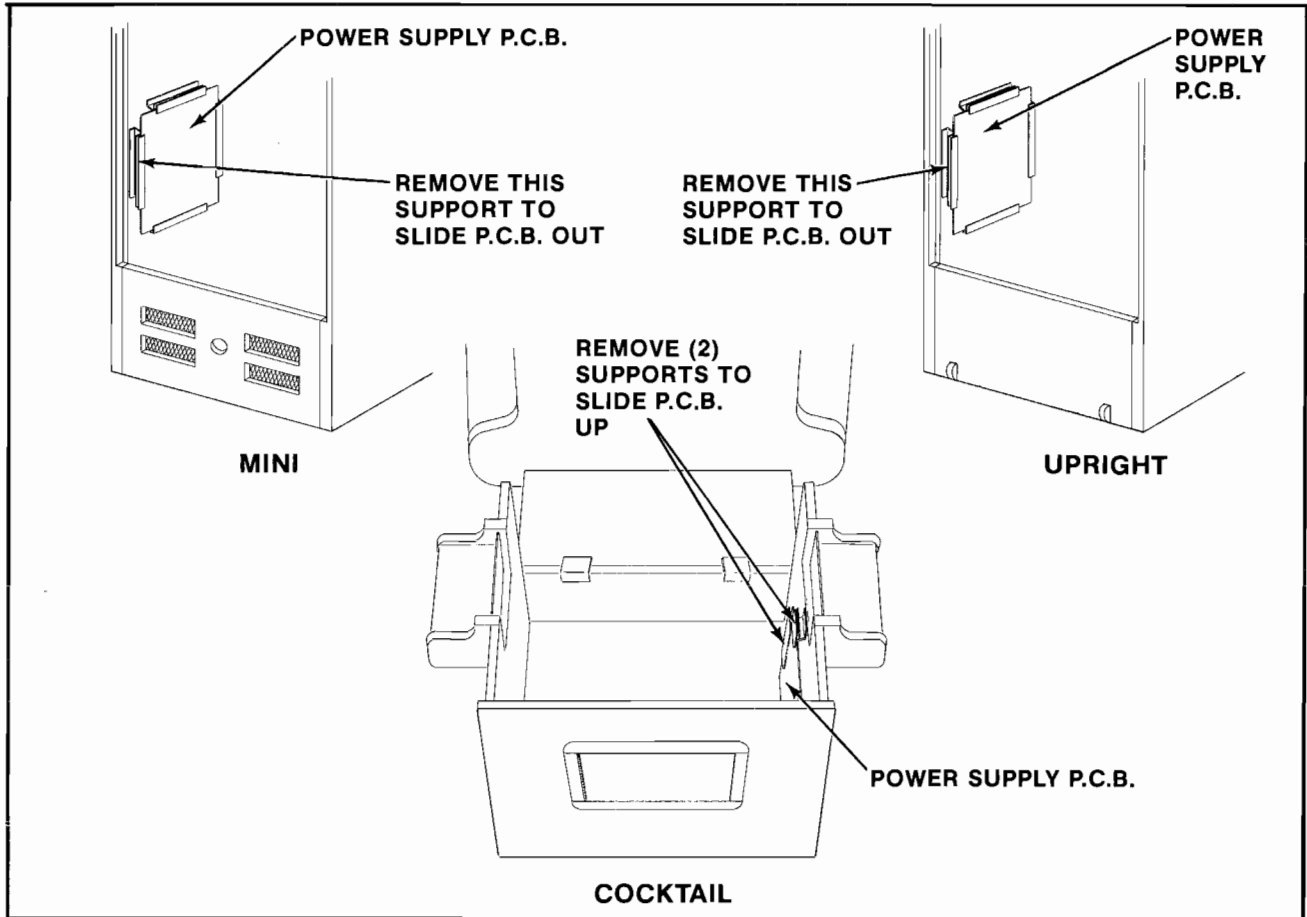

Figure 24 Replacing power supply P.C.B. — All versions
**1. UPRIGHT MODEL. SEE FIGURE 24.**
- Disconnect the linear power supply board from all its cabling, remove the P.C.B. supports indicated in Figure 24, and slide the linear power supply board out the back of the cabinet.
**2. MINI MODEL. SEE FIGURE 24.**
**3. COCKTAIL TABLE MODEL. SEE FIGURE 24.**
- Remove the linear power supply board. See Figure 24.